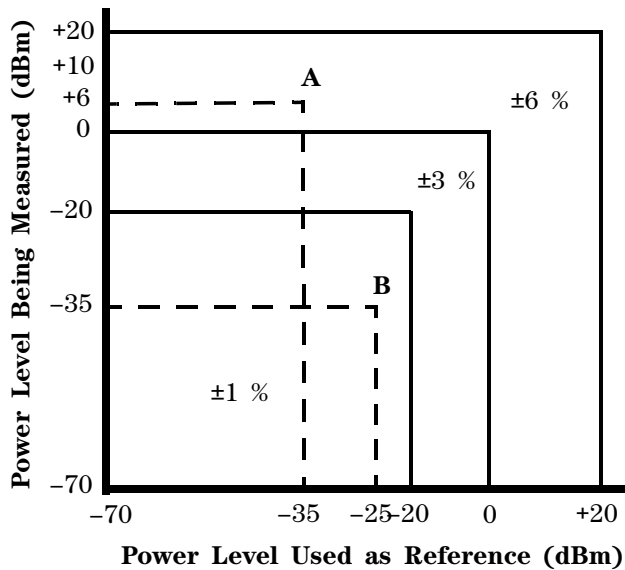

Figure 2 Relative Mode Power Measurement Linearity with Power Meter/Sensor at 25 °C (Typical)
| Figure 2 | Relative Mode Power Measurement Linearity with Power Meter/Sensor at 25 °C (Typical) | 7 |
a. Limits are in percent of power in Watts. See Figure 2 for relative power measurement.
The chart in **Figure 2** shows the typical uncertainty in making relative power measurements with the E44XX-Series power meter in the Rel (relative) mode. In a relative measurement, two power levels are compared using a single sensor. The typical measurement uncertainty can be found by drawing a vertical line at a power level used as a reference, and a horizontal line at the power being measured. The region where these two lines intersect shows the typical uncertainty. This assumes that the reference power and the measured power are at the same frequency, and neglects errors due to zero set, zero drift, and noise. It also assumes no change in mismatch when measuring the “Power level used as reference” and the “Power level being measured”. This chart illustrates that the best relative power measurement accuracy is obtained when the reference and the measured power levels are equal to, or less than, -20 dBm. Care in choosing the power levels can yield improved measurement accuracy. Example A illustrates a relative gain (amplifier measurement) and example B illustrates a relative loss (insertion loss measurement).